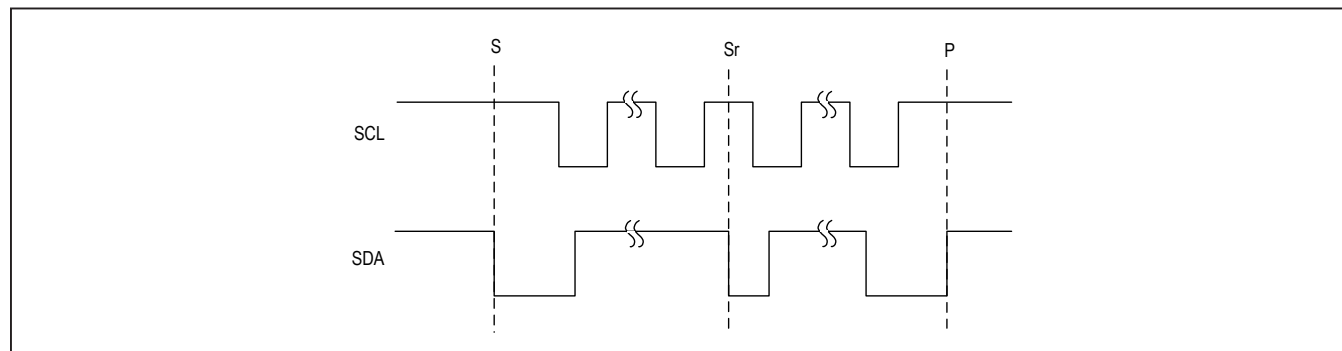

Figure 8. I²C START, STOP and REPEATED START Conditions
When writing to the MAX20353 using I²C, the master sends a START condition (S) followed by the MAX20353 I²C address. After the address, the master sends the register address of the register that is to be programmed. The master then ends communication by issuing a STOP condition (P) to relinquish control of the bus, or a REPEATED START condition (Sr) to communicate to another I²C slave. See Figure 8.